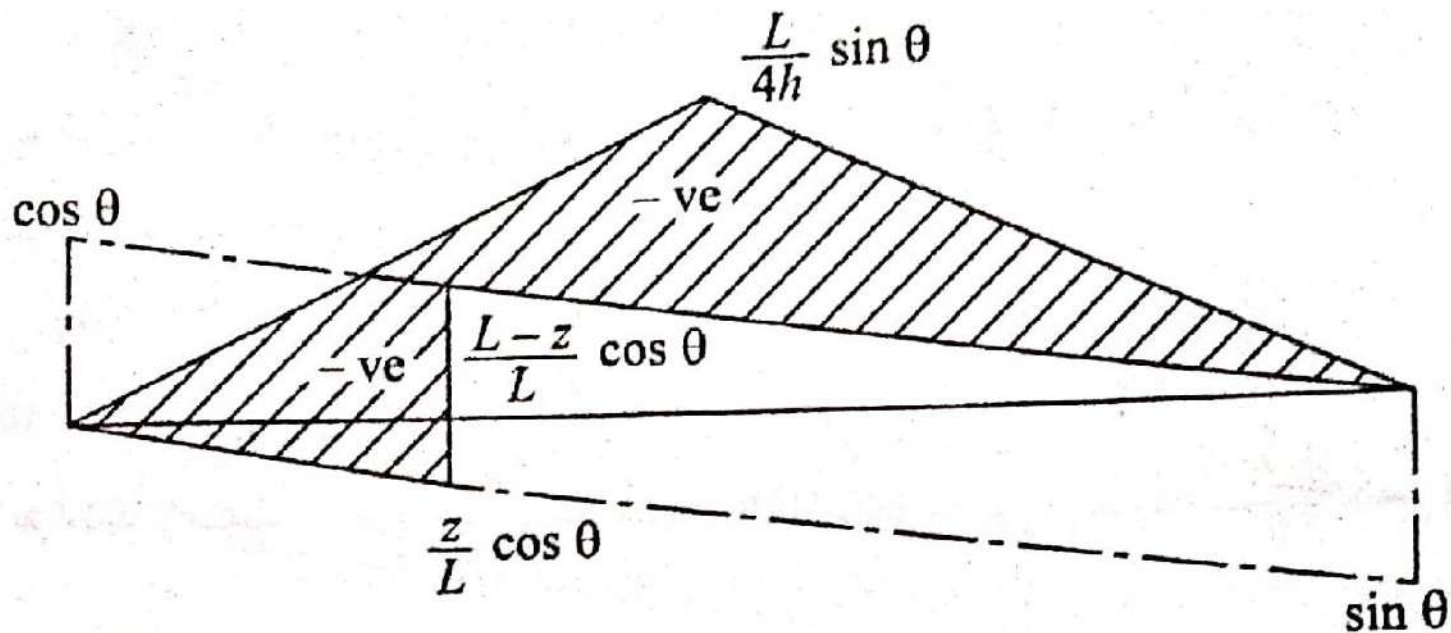

Figure 12: ILD for Q_D
- The difference diagram is the ILD for Q_D as shown in Figure 12.